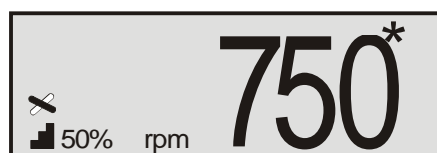

Figure 10: Stirring display
- ◆ Exit the menu by pressing the adjusting wheel (8).
The display (10) returns to the stirring display (Figure 10).
- ◆ Confirm all settings by again pressing the adjusting wheel (8). Repeat until the stirring display (Figure 10) reappears.
- ◆ Press the program key (9) for which you made the settings. The settings are stored, and the stirring display (Figure 10) reappears.
- ◆ Place the stirring vessel on the stirring point (1) of the magnetic stirrer.
- ◆ Select a program key (9).
- ◆ Start the stirrer using the START/STOP key (11).
- ◆ Set the desired speed using the adjusting wheel (8).